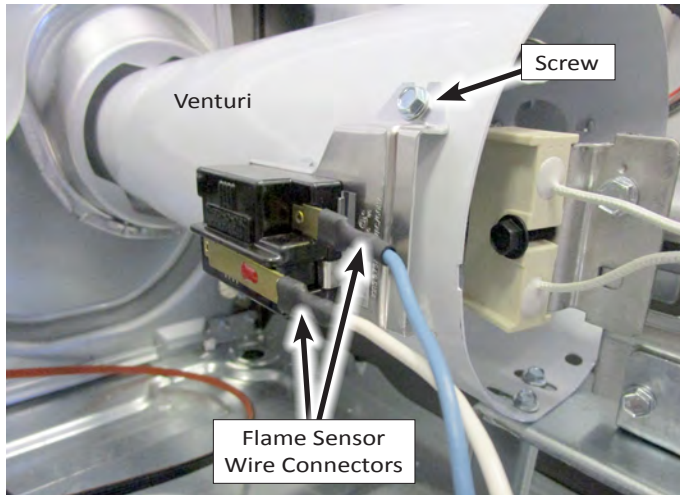

Figure 4 - Removing Flame Sensor
6. To remove the Flame Sensor (see Figure 4):
- a) Disconnect the two (2) wire connectors from the flame sensor terminals.